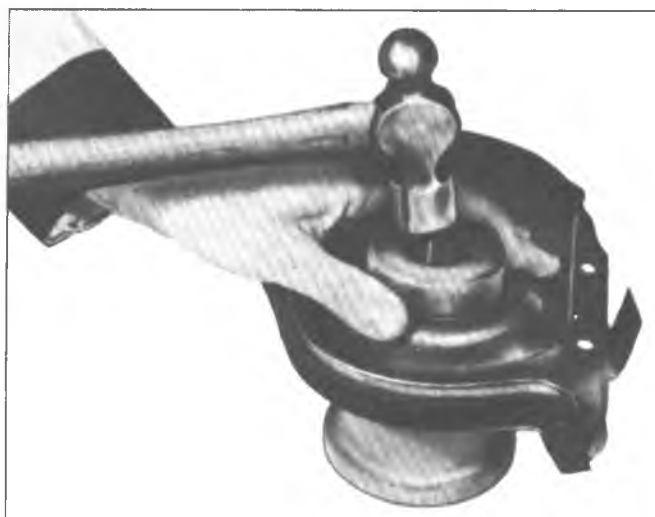

Fig. 22L—Installing Oil Seal (Cover Removed)
2. Install new seal so that open end of the seal is toward the inside of cover, and drive it into position with Tool J-23042 (fig. 22L).